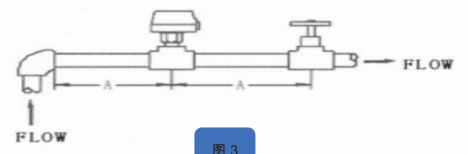

图 3
1)流量开关一定要安装到一段直线管道上，其两边至少要有 A=5 倍管径的直线长度。(见图 3)
- The flow switch must be installed on a straight pipe at least 5 times the diameter of the pipe on both sides. (see figure 3)